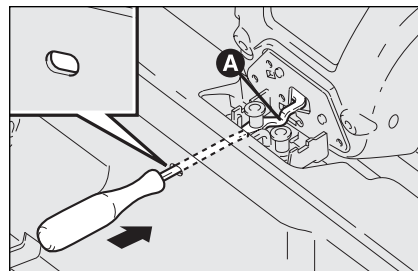

fig. 91
- take the screwdriver from the tool bag and fit it into the hole in the rear boot crossmember (see **fig. 91**);
- using the screwdriver, operate device **A-fig. 91** to open the tailgate.